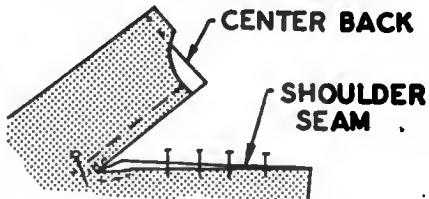

Fig. 204. Marking the points of the clip mark.
- Do this for both shoulders (Fig. 204).
- Put it through the stitching at the point. Be exact (Fig. 204).